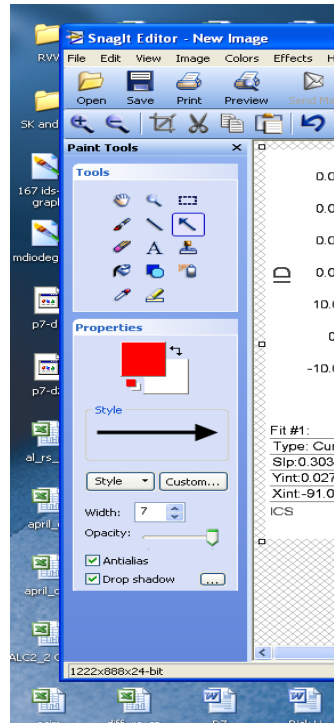

Figure 74: Properties window
3. You can choose the style of the arrow in the “Properties” window, see Figure 74.